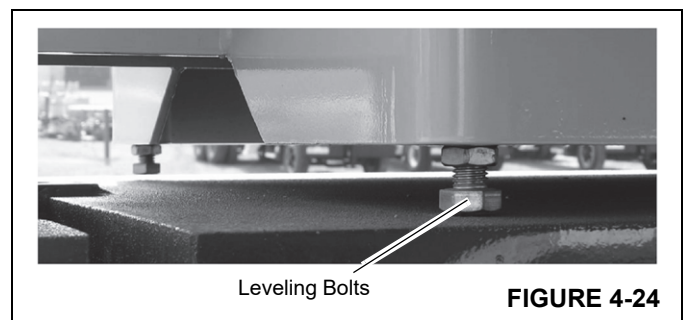

FIGURE 4-24
9. Adjust the four counterweight leveling bolts (Figure 4-24) to eliminate any relative movement between the counterweight and the turntable.